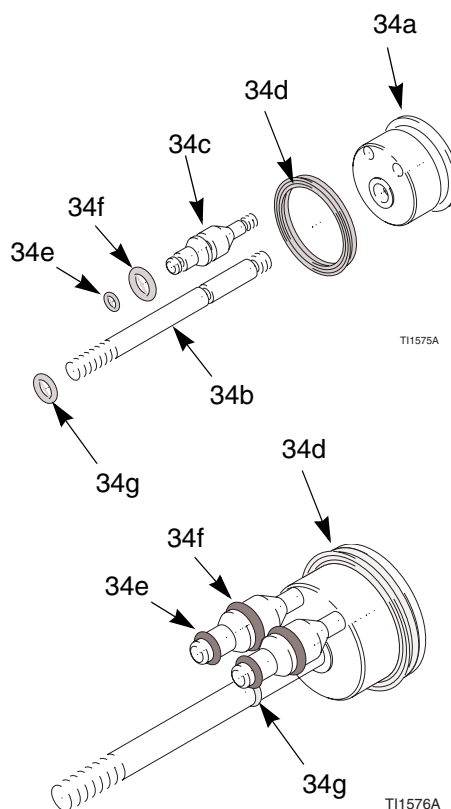

Fig. 31. Piston O-Rings
5. Inspect the o-rings (34e, 34f, 34g) and u-cup packing (34d) for damage. See Table 3 and FIG. 31..